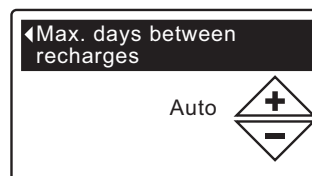

FIG. 77
- 8b. **Maximum days between recharges:** Press the UP (▲) or DOWN (▼) buttons to change the number of days (See Figure 77). The feature can be set from 1 to 15 days. Setting the number of days below 1 turns the feature off and defaults to automatic control of recharging.